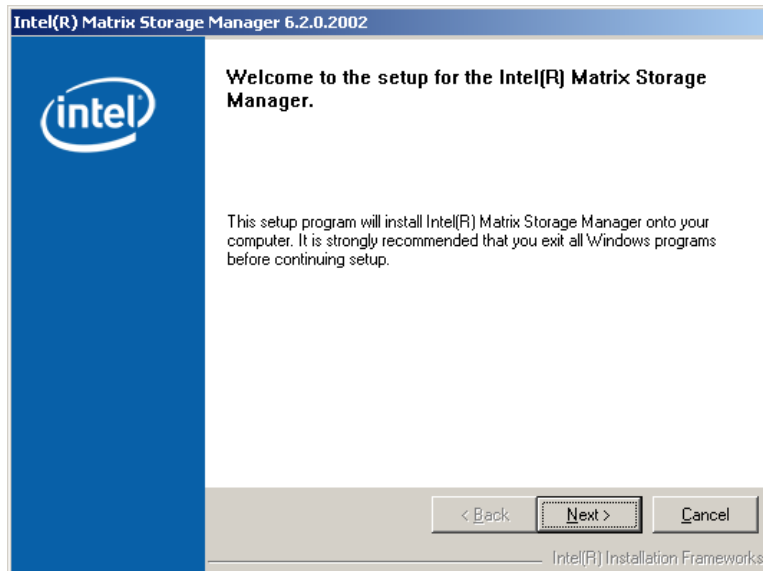

Figure 7-37: Matrix Storage Manager Welcome Screen
Step 7: Figure 7-37 shows the Matrix Storage Manager welcome screen.